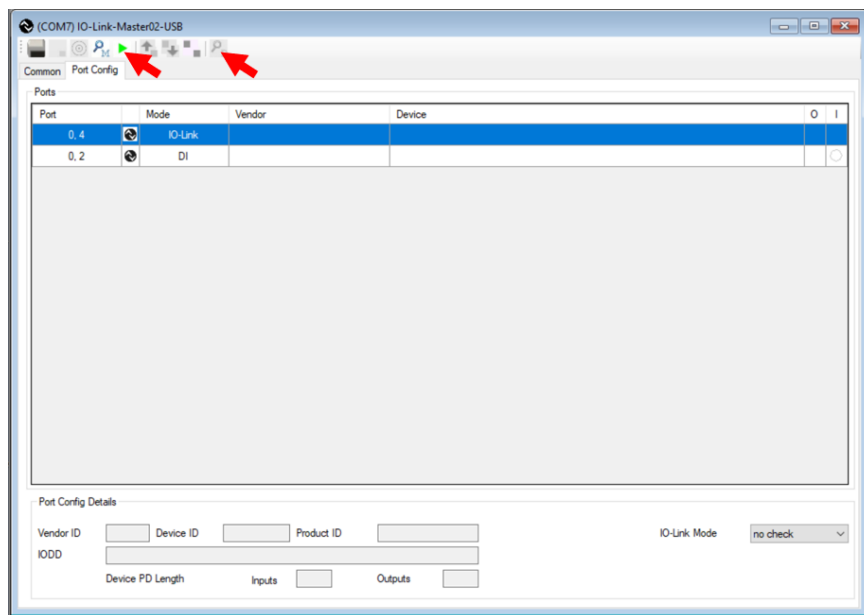

Figure 5. Device detection
- c. Click on the green lecture button and on the loop to run a device detection, see Figure 5. The 'Check Devices' window pops-up.